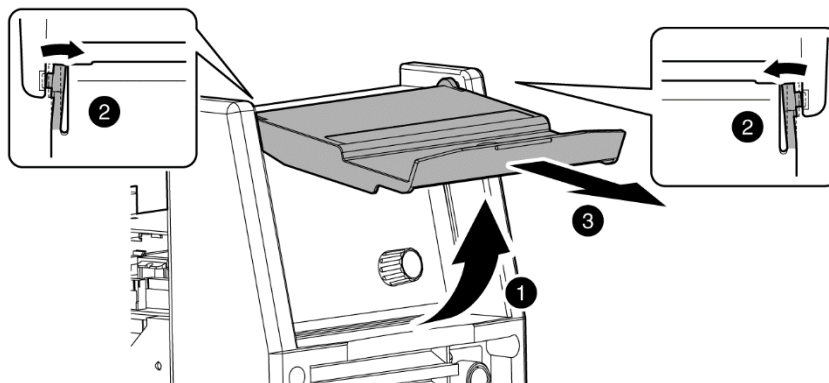

Figure 6-1 : VRD ON/OFF Step A
- a) Remove the clear plastic cover from the control panel (see Figure 6-1).